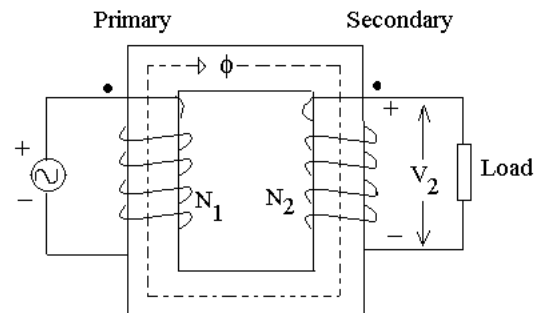

Fig. 1
**Q.52** The polarity test is not necessary for the single-phase transformer shown in Fig. 1 so as to correctly determine \_\_\_\_\_ of the transformer.
- (A) shunt branch parameters.